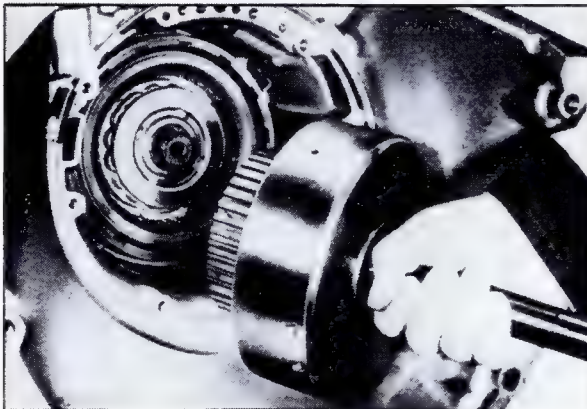

Fig. 7-54 Removing Forward Clutch Assembly
1. Remove turbine shaft and forward clutch assembly from transmission, Fig. 7-54.